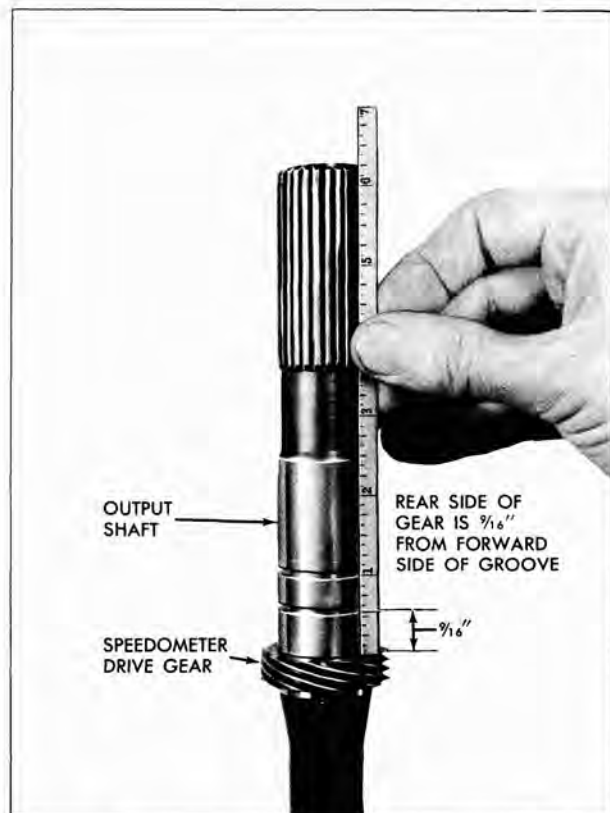

Fig. 124 Locating Speedometer Drive Gear
5. Install speedo drive gear using either tool J-6133 or press plates J-8904. Drive until rear side of gear is $\frac{9}{16}$ inches from front side of nearest snap ring groove (Fig. 124).